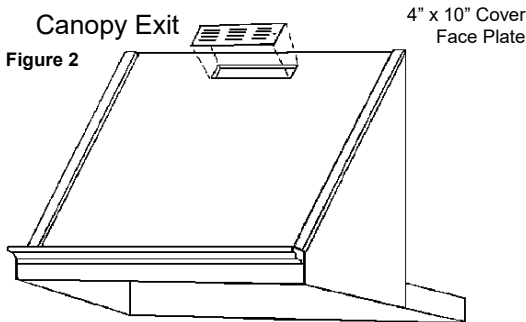

Figure 2
2. Remove Filters of powered liner. Remove the **BLACK** tape that holds the damper blades closed. (Figure 2) (It is NOT recommended to use two (2) dampers during installation. You have the option to use an external damper or use the existing damper already on our unit.)
(FIGURE 2)